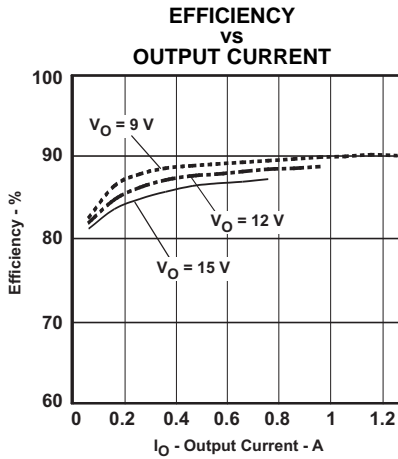
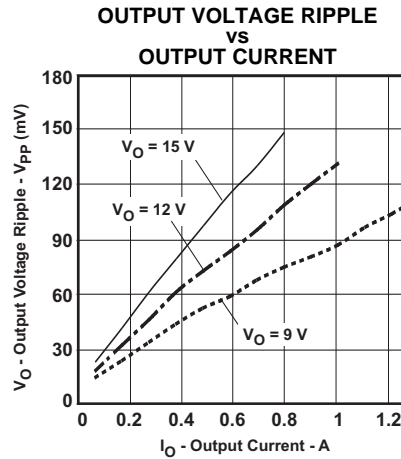
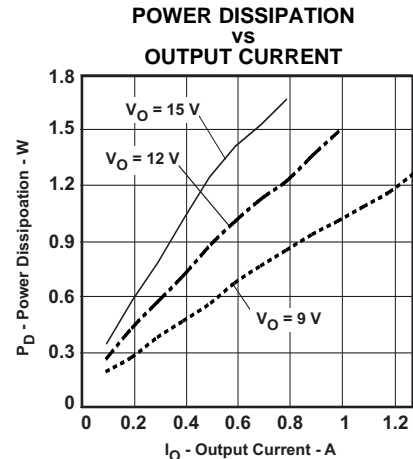

Figure 8.
Figure 9.
Figure 10.
- (1) The electrical characteristic data has been developed from actual products tested at 25°C. This data is considered typical for the converter. Applies to Figure 8, Figure 9, and Figure 10.